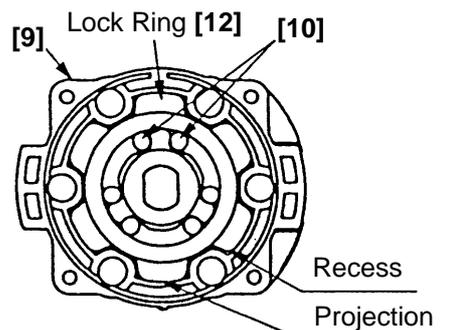

Fig. 11
(b) Install the six Needle Rollers (C) [12]. (See Fig. 11)